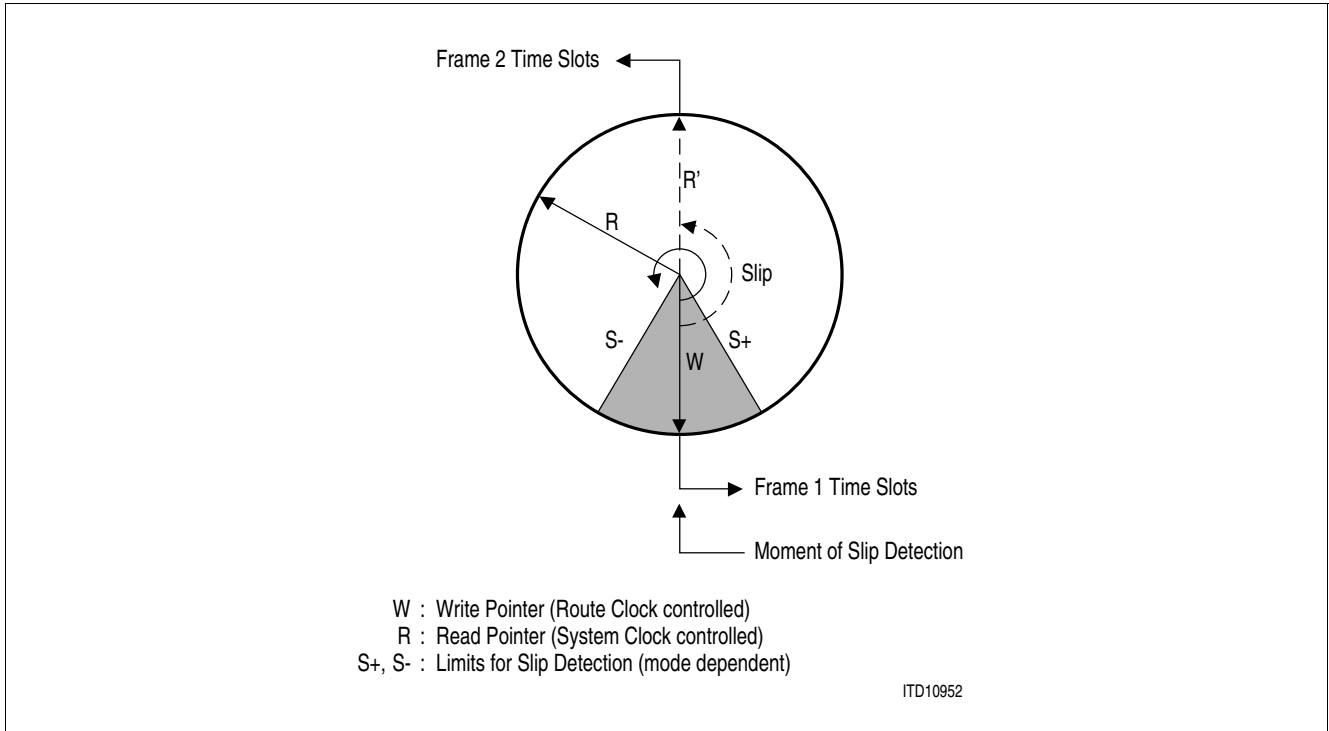

Figure 35 The Receive Elastic Buffer as Circularly Organized Memory
Figure 35 gives an idea of operation of the dual receive elastic buffer: A slip condition is detected when the write pointer (W) and the read pointer (R) of the memory are nearly coincident, i.e. the read pointer is within the slip limits (S +, S -). If a slip condition is detected, a negative slip (one frame or one half of the current buffer size is skipped) or a positive slip (one frame or one half of the current buffer size is read out twice) is performed at the system interface, depending on the difference between RCLK and the current working clock of the receive